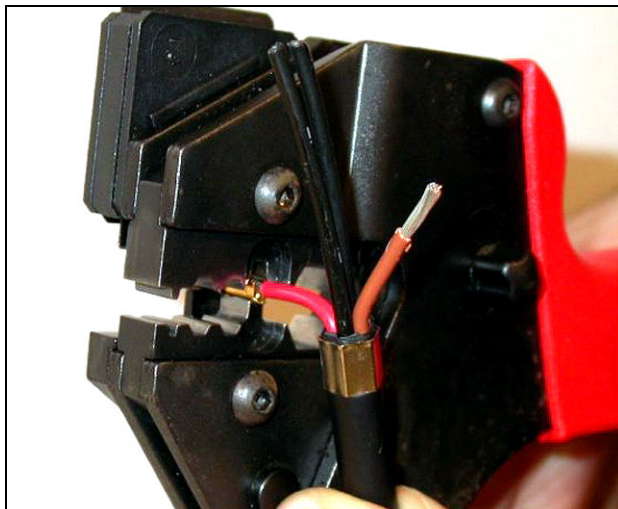

figure 29.14: Crimping a socket contact (2)
- 11 Slide one of the stripped, copper wires into the contact area of the socket contact and close the crimping tool to crimp the socket contact onto the copper wire (see figure 29.14).